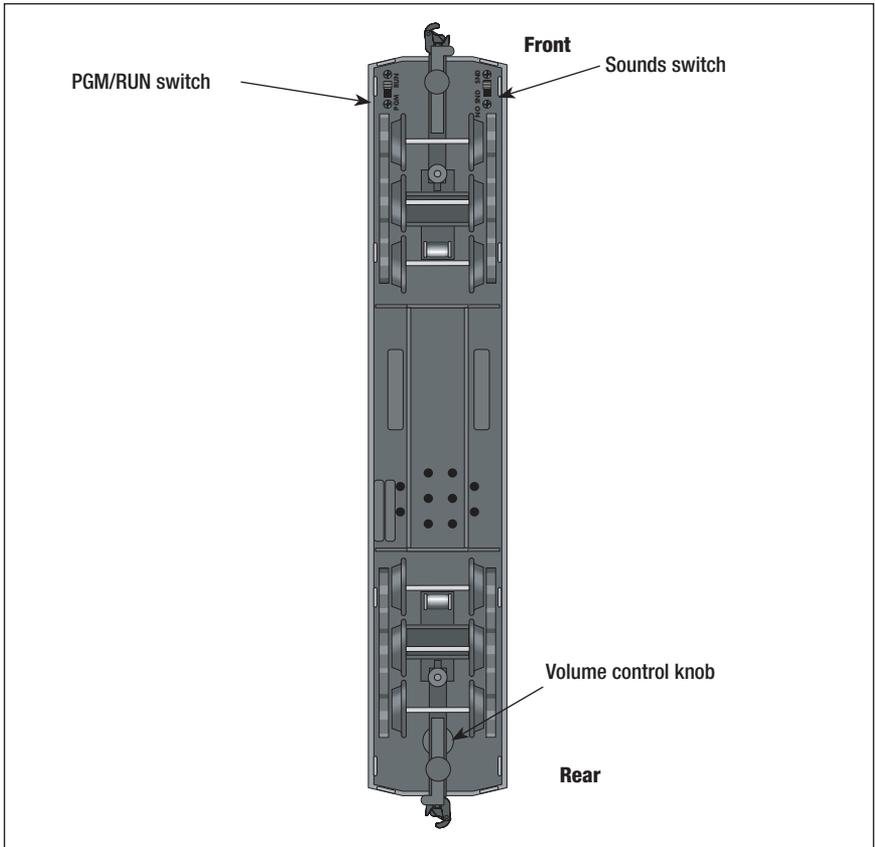

Figure 4. Switch and volume locations
All Lionel command-equipped products come factory-programmed with an ID# of 1. (To change the ID#, see page 12.) Even though your TrainSounds Car is not an “engine,” it is still addressed using **ENG** on the CAB-1 Remote Controller. Use the volume control on the bottom of the car (see Figure 4 on page 12) to set the volume to your desired level.
Set the TrainSounds Car PGM/RUN switch to PGM. Refer to Figure 4 for the location of that switch. Plug in your Command Base, then place the TrainSounds car on the track. Set your PowerMasters to CMD or set your traditional power supplies to FULL (no more than 19 volts). Using your CAB-1 Remote Controller, press **ENG**, the TrainSounds car ID# (that you select), then press the **SET** button located under your CAB-1 Remote Controller's removable panel. Set the PGM/RUN switch to RUN. Your TrainSounds car is ready for operation with its all-new ID#.
1. Move the PGM/RUN switch on the bottom of the TrainSounds car from RUN to PGM. Refer to Figure 4 on page 10 for the switch location.